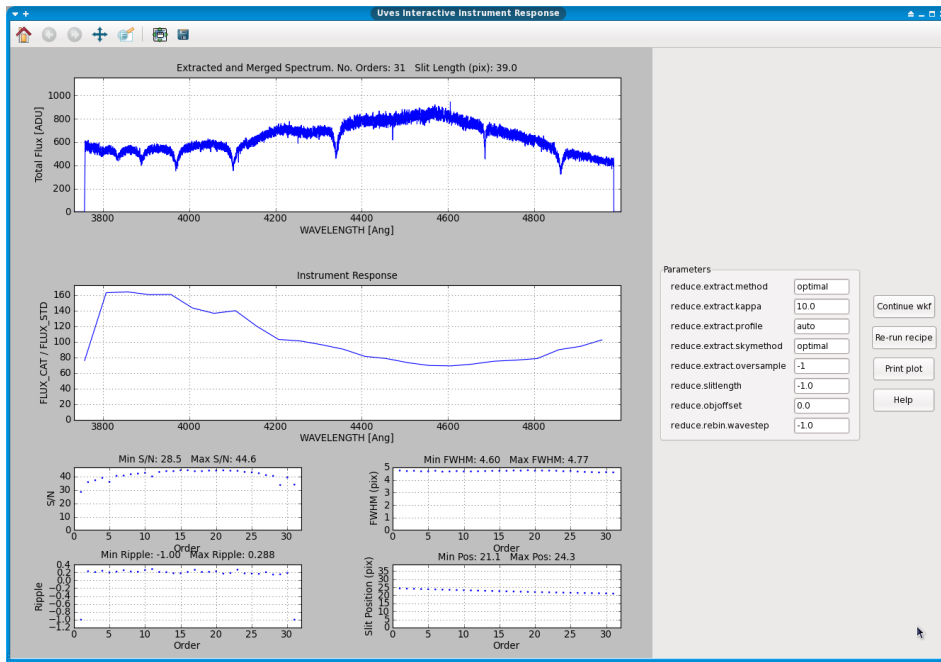

Figure 12: *The interactive window for the Instrument Response actor.*
- Instrument Response:** The standard data sets supplied with `Reflex 1.1` do not include standard star observations. Hence the `Instrument Response` actor will not be executed, and the corresponding interactive window will not appear. In Figure 12 we show what this interactive window looks like. The usage and purpose of the `Instrument Response` interactive window are the same as for the `Spectrum Extraction` interactive window which we describe in detail in the next few steps, and so no more information on this window is given here in the tutorial.